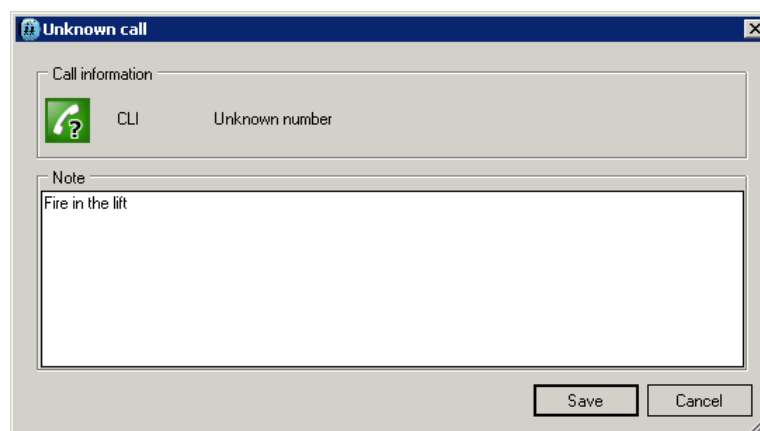

Figure 30: Append note to unknown call
- Write additional notes about the call into the dialog provided and press "Save" button - see figure 30.